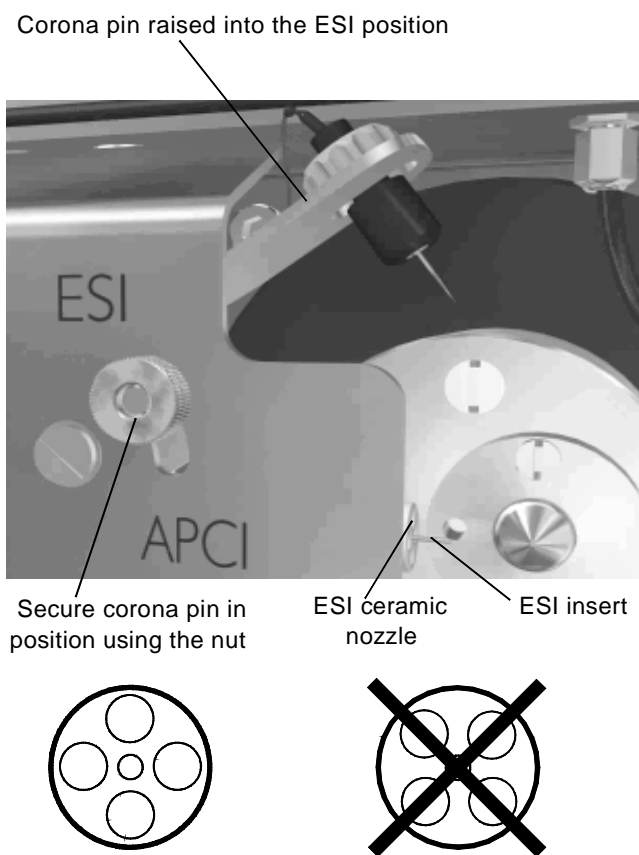

Figure 2-4. Fitting the ceramic gas nozzle on the end of the probe in the orientation shown and retracting the corona pin
4. Place the ceramic gas nozzle (P/N 9227-92) on the front end of the probe, ensuring that the ESI insert is protruding through the center of the nozzle (see Figure 2-4). The nozzle must be fitted in the orientation shown.